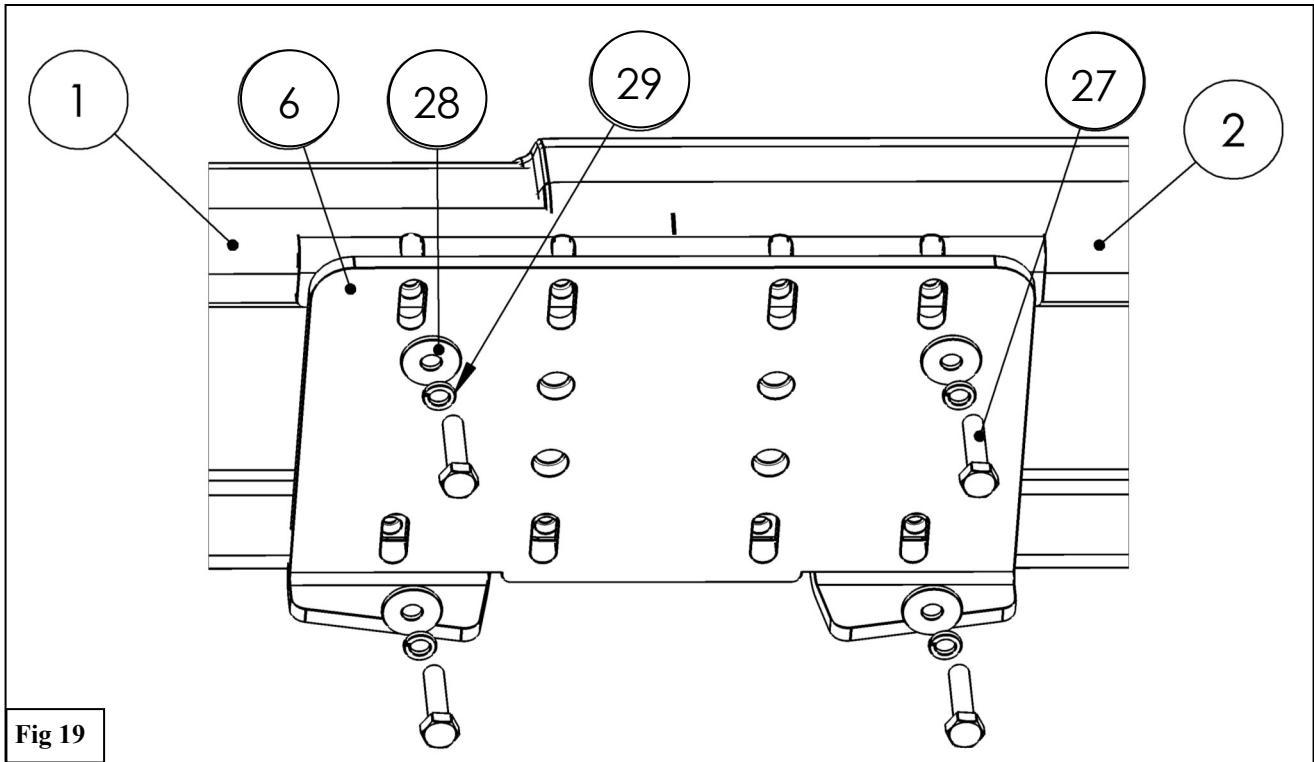

Fig 19
17. Obtain the Link Plate (6) and secure it to the Step Bar Assembly (1 & 2) using the supplied M6 Hardware. See Figure 19.
19. **Figure 19** shows the passenger side bracket configuration for non-diesel trucks.